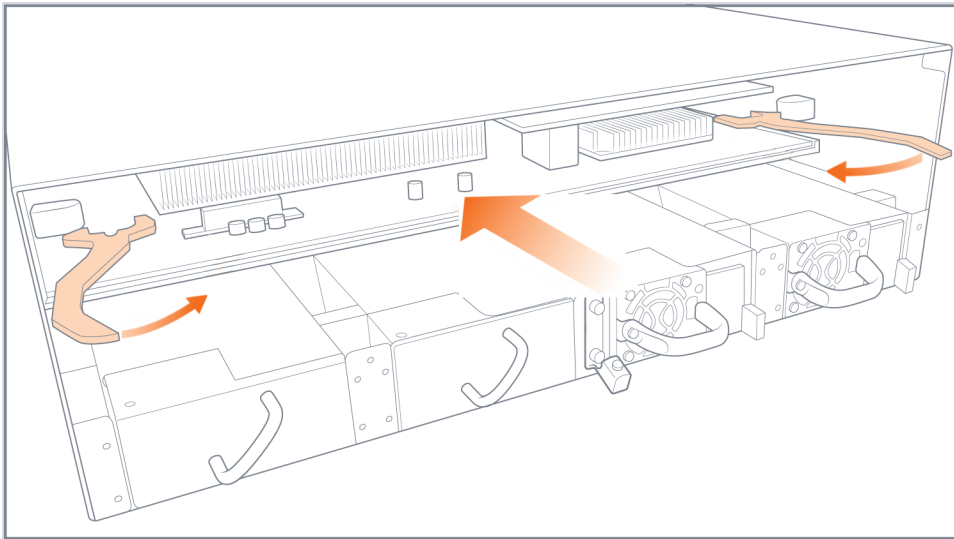

Figure 23: Control Card Ejector Handles
2. Swing both ejector handles inward as shown in Figure 23: Control Card Ejector Handles on page 92.